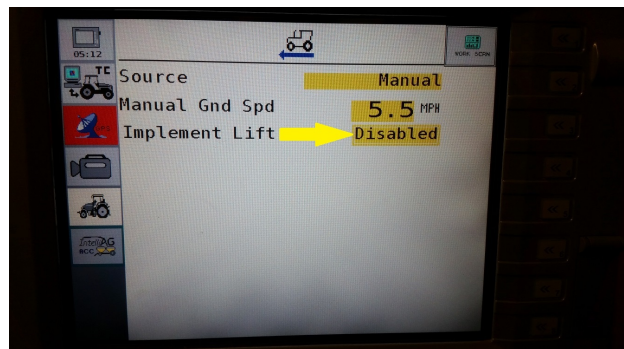

Figure 34
Step 6. Disable implement lift switch (Figure 34)